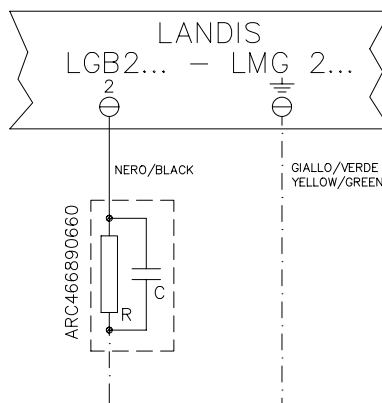
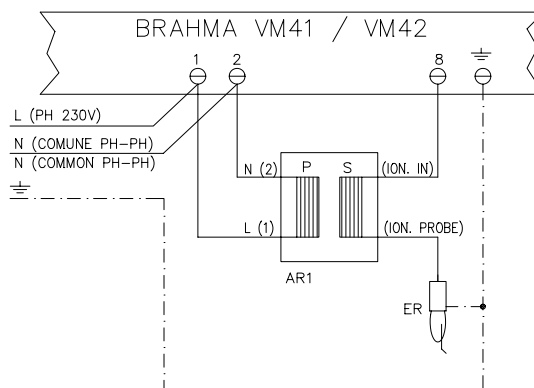

Fig. 34a
Fig. 34b
If the power supply to the burner is 230V phase-phase (without a neutral), with the Brahma VM4., to increase the voltage between the electrode and the ground, you need to use the insulation transformer Brahma AR1 (our code 2531006), connected as shown in Fig. 34b
* See Fig. 34a and Fig. 34b.